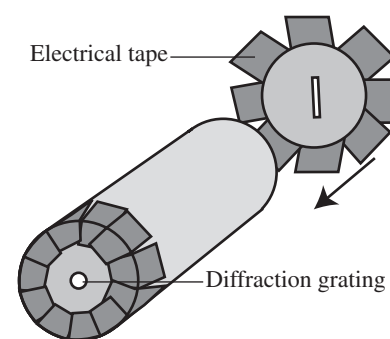

Figure 4.
11. Hold the circle with the slit over the open end of the tube and look at any light source through the hole in the other end containing the C-Spectra. Rotate just the tube until a clear spectrum of the light is visible on both sides of the slit and the spectrum is as wide as possible. Tape the circle with the slit to the end of the tube in this position (see Figure 4).